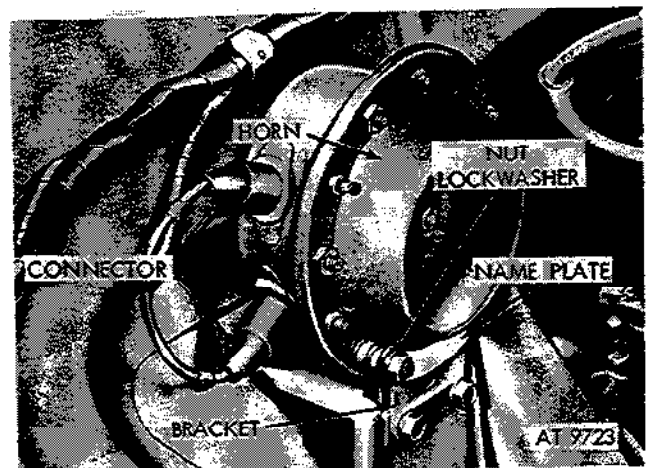

Figure 2-285. Remove horn assembly from bracket.
(1) Separate connectors at horn (fig. 2-285).
(2) Remove two nuts, nameplate and lockwashers securing horn assembly to horn mounting bracket (fig. 2-285).